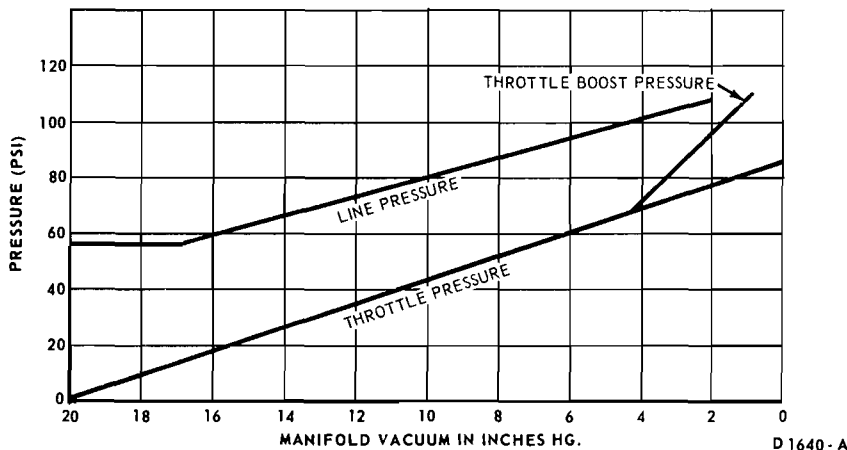

FIG. 11—Primary Throttle Pressure, Throttle Boost Pressure and Control Pressure Versus Engine Manifold Vacuum
Fig. 11 shows how primary throttle pressure varies with engine vacuum.
Figure 11 shows the relationship between primary TV pressure and boosted throttle pressure.
6. Adjust the length of the accelerator rod to obtain an accelerator pedal height of 4-4 1/2 inches measured at the pedal as shown in Fig. 11. Connect the accelerator rod to the accelerator shaft with the retaining clip after the proper accelerator pedal height has been established.